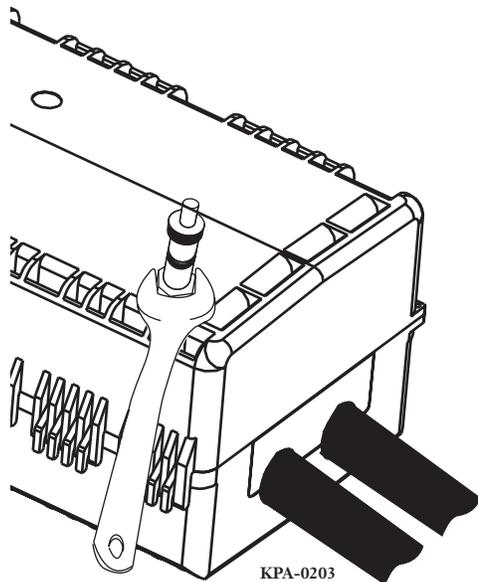

Figure 18 — Install Air Valve
- Step 3** Install the valve stem finger-tight, then another half turn with a wrench, into the threaded hole as shown in Figure 18.